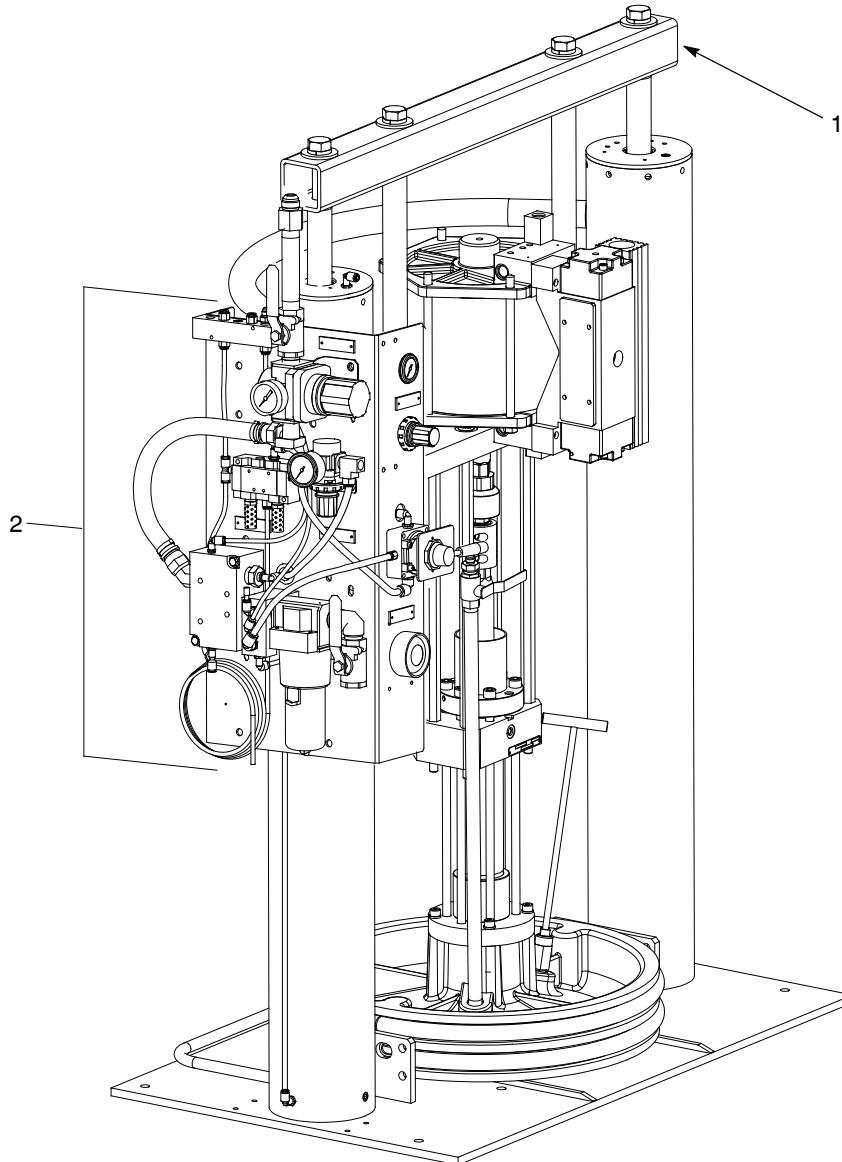

Figure 1 Control Module
See Figure 1. Each Control Module (1) provides the pneumatic operating functions for Rhino SD/XD bulk unloaders (2). It mounts to the side of small- and large-frame Rhino SD/XD bulk unloaders.